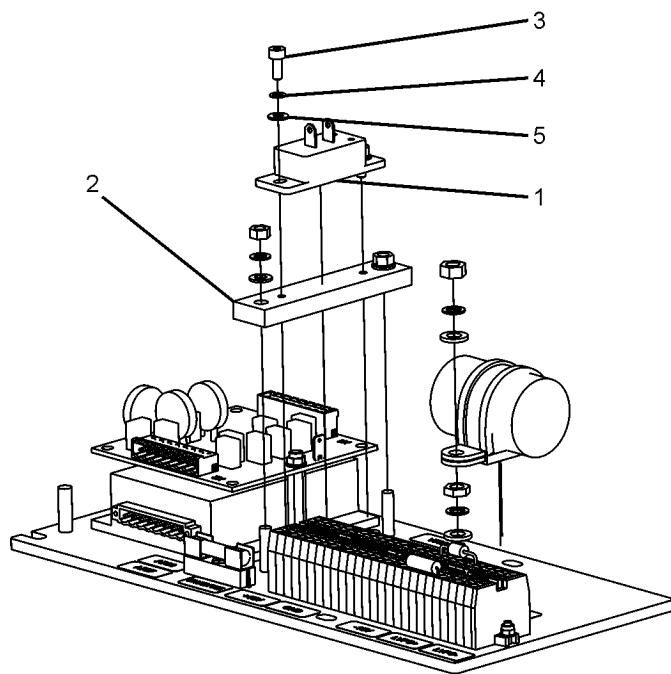

Figure 5-65: V720 Anchor Points
6. Detach V720 (see Figure 5-65). V720 (1) is mounted atop a mounting plate (2) and is held in place with two M4 locking nut (3) and M4 washer (4) sets. Remove the fasteners to detach the V720.
4. Attach V720 (see Figure 5-65). V720 (1) is mounted atop a mounting plate (2) and is held in place with two M4 locking nut (3) and M4 washer (4) sets. Affix the fasteners and tighten to 22 lb-in (2.5 Nm).